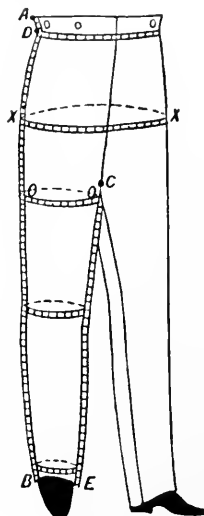

Fig. 1
**7. The First Measure.**—The outside length is taken from point D, which should be the top of the hip bone *always* (not from top of trousers), to point B, the sole of the shoe, near the front of the heel (see Fig. 1). If the customer should be very fleshy, and it is hard for you to locate the top of the hip bone, have the customer locate it for you.
**9. The Third Measure** is the waist. Standing in front of the customer, raise the vest in front and with the tape in the right hand follow the waistband around to the back, meeting it with the left hand; carry the tape to the front, and with the thumb of the left hand resting on the first inch, the thumb outward, carry the tape past with the right hand in a medium close measure, taking care that it is up above the hip bone, but on the trousers. (See Fig. 1, point D.) Call out the figures or mark it down.
12. **The Sixth Measure** is the thigh. The thigh is taken right below the trunk or body on the right leg, close up to the fork or crotch, and is taken close or actual measure of the thigh (marked O, Fig. 1).